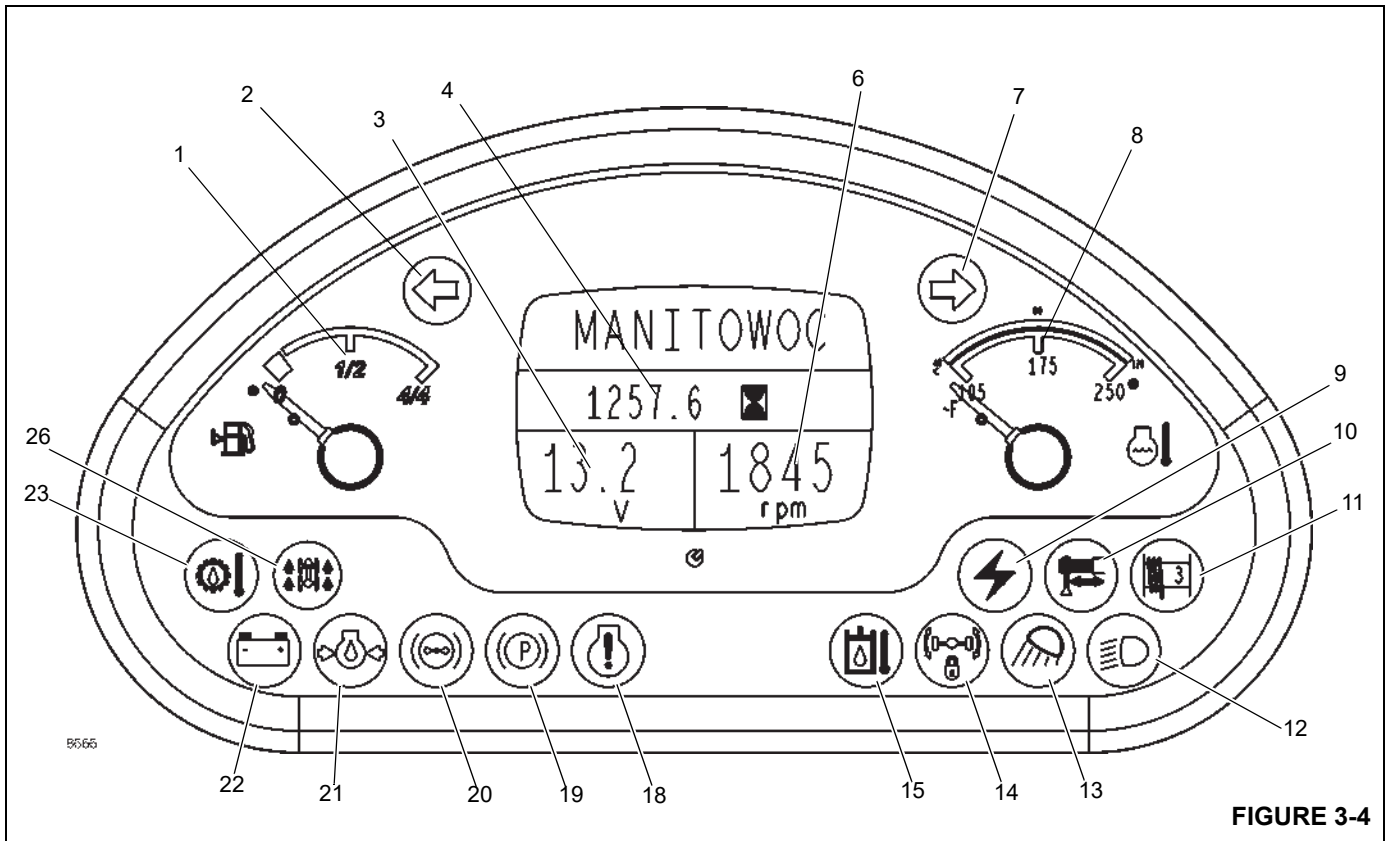
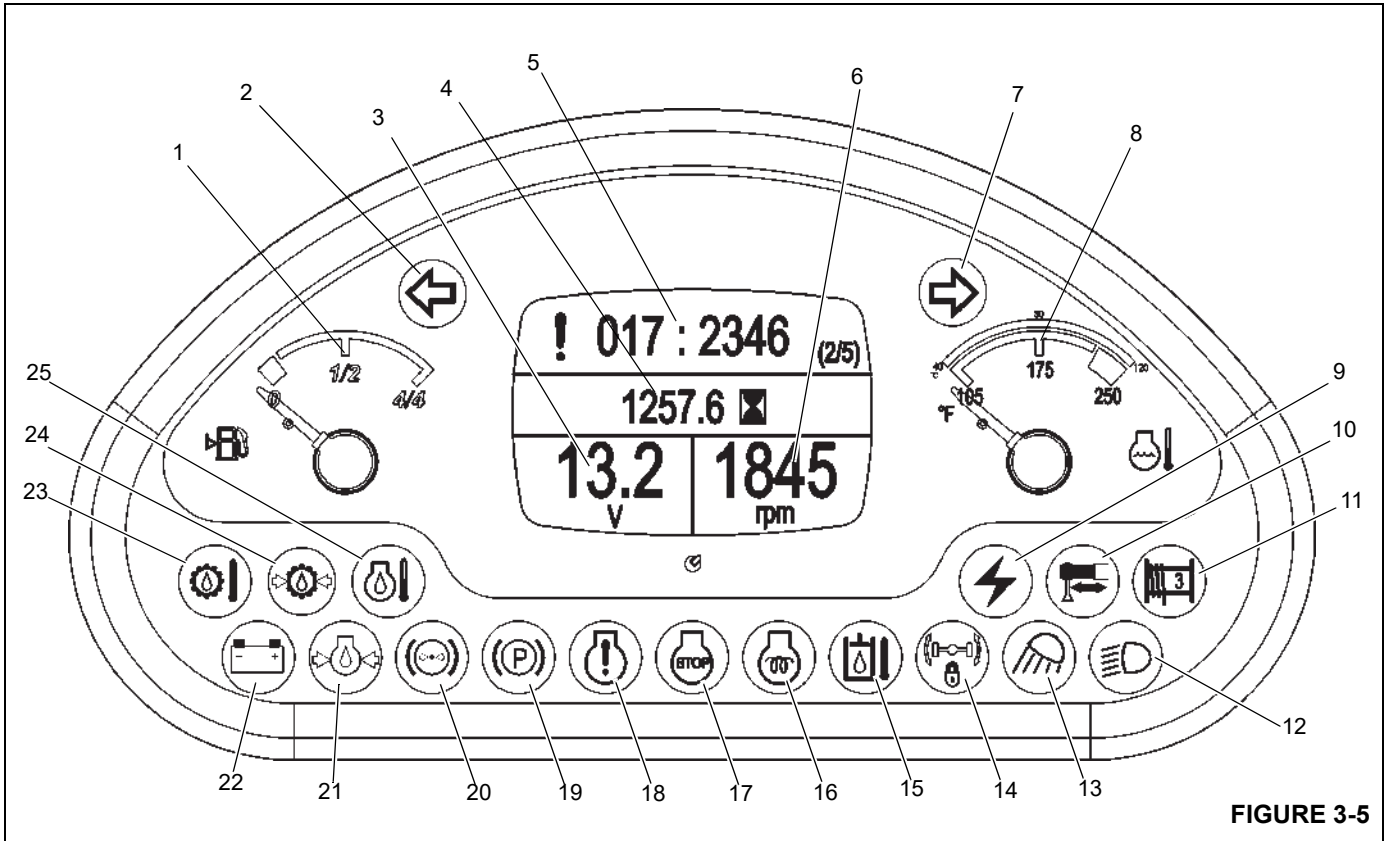

FIGURE 3-4
FIGURE 3-5
Figure 3-4 and Figure 3-5 Item Numbers
The Fuel Gauge (1) (Figure 3-5) indicates the quantity of fuel in the fuel tank and has a scale calibrated from 0 (empty) to 4/4 (full). The fuel gauge receives a signal from a sending unit in the fuel tank.
If the condition persists, the stop lamp (Figure 3-5) will flash to warn the driver that the engine should be shut down and the problem resolved before starting the engine again.